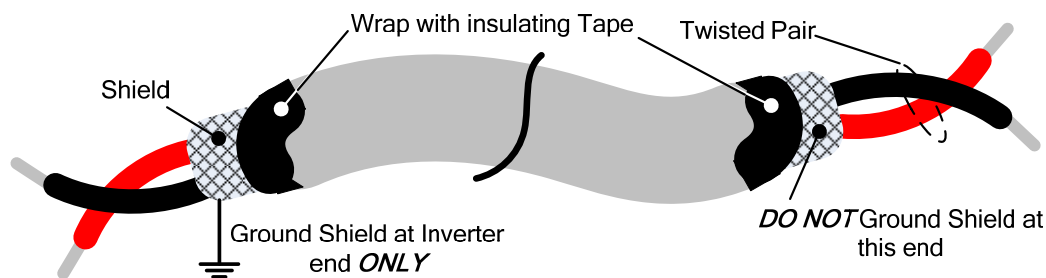

Figure 3.3.7.1 Shielded Twisted-Pair
- (1) Separate the wiring for control circuit terminals from main circuit wiring for terminals (R/L1, S/L2, T/L3, U/T1, V/T2, and W/T3).
- (2) Separate the wiring for control circuit terminals (R1A, R1B, R1C / R2A, R2C /R3A, R3C) from wiring for terminals S1~S6, A01, A02, GND, +10V-, AI1, AI2, and GND wiring.
- (3) Use shielded twisted-pair cables (#24 - #14 AWG / 0.5 -2 mm²) shown in Fig. 3.3.7.1 for control circuits to minimize noise problems. The maximum wiring distance should not exceed 50m (165 ft).